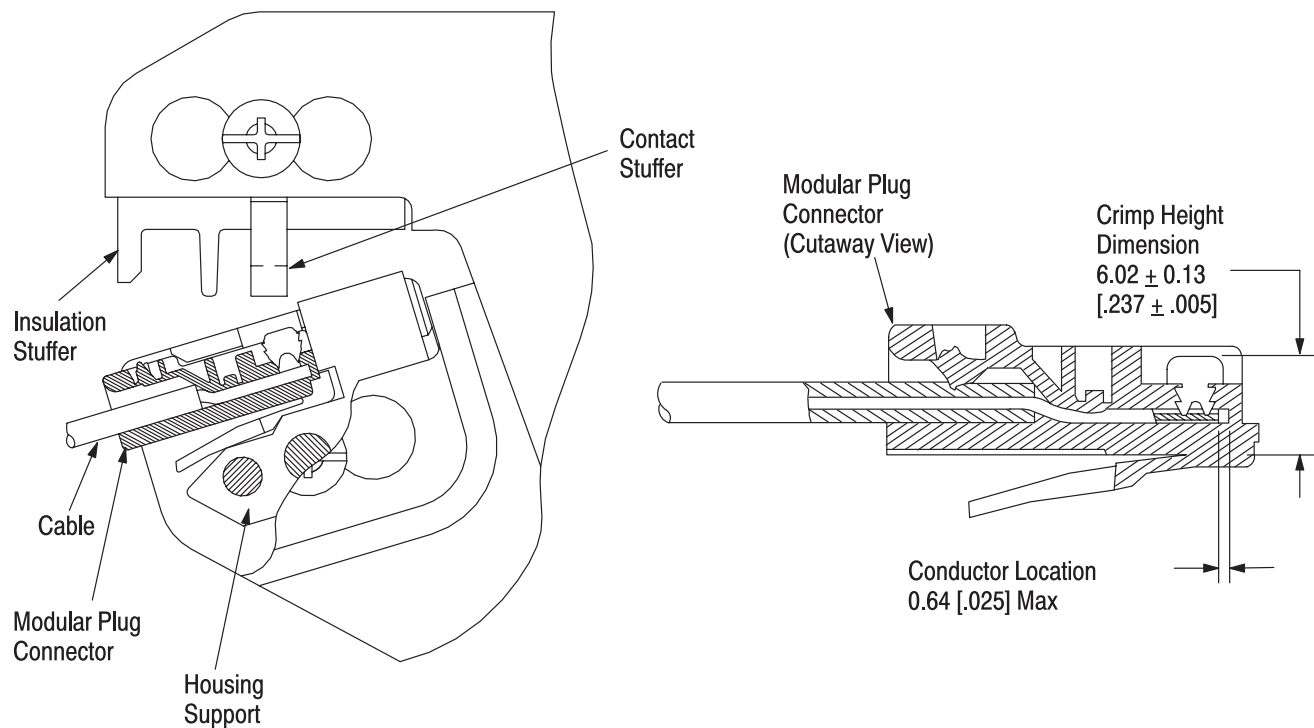

Figure 3
*This tool is provided with a crimp adjustment feature. Initially, the crimp height should be verified as specified in Figure 3. Refer to Section 5, CRIMP HEIGHT INSPECTION, and Section 6, CRIMP HEIGHT ADJUSTMENT, to verify crimp height before using the tool to crimp desired connectors.*
Figure 3 shows a cutaway of a typical terminated plug and the required location of the conductors. A visual inspection through the plastic housing of the plug should reveal whether the conductors are within the acceptable range.
Inspect connector for proper crimp height using an indicator with needle-point probes. Refer to Figure 3 for correct crimp height measurement. If necessary, adjust the crimp height as described in Section 6, CRIMP HEIGHT ADJUSTMENT.